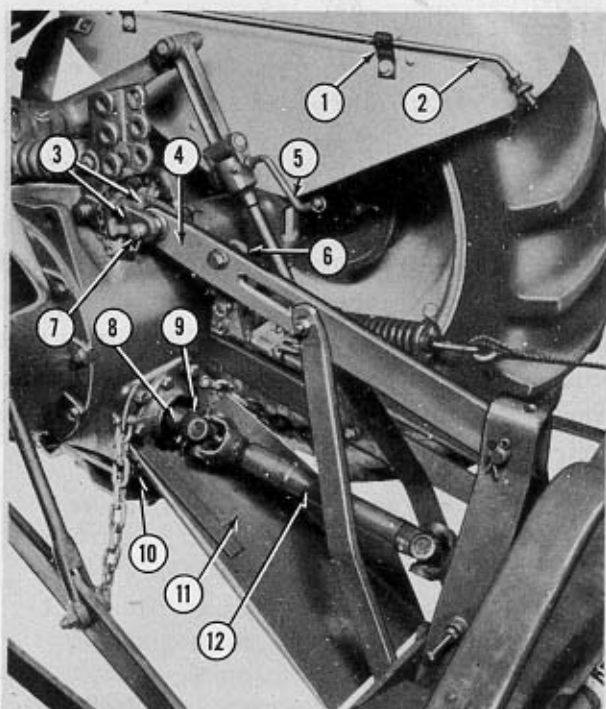

Figure 17
- a. From the tractor seat grasp the mower top link (4), Figure 17, with the right hand and hold it forward.
- b. Align the forward end of the top link horizontally with the leveling rod crank (5), Figure 17, so it will fit between the lugs on the bracket (3).
- c. Raise the mower SLOWLY with the Hydraulic Touch Control lever and guide the top link (4), Figure 17, into the bracket (3) with the right hand. Insert the
- d. Release the lock (6), Figure 17, from the top link anchor strap pin, lower the mower and shut off the tractor engine.
- a. Lower the right side of the mower main frame about one inch with the tractor leveling crank (5), Figure 17.
28. Loosen the bolt (10), Figure 17, on each side of the tractor center housing. Raise the drive shaft assembly (12), and position the guard (11) with the slotted straps over the two bolts as shown. Tighten the bolts (10), Figure 17, and lock washers against the guard straps.
29. Start the tractor engine, engage the P.T.O. lever, raise the mower and lock it in transport position with the lock (6), Figure 17.
31. Remove the tractor P.T.O. cap and attach the splined end of the mower drive shaft (8), Figure 17, to the tractor P.T.O. shaft and secure with the pin (9) and cotter pin. Be sure both splines are free from burrs and dirt.
32. Place the transport rod (2), Figure 17, in the clips (1) as shown.
13. Attach the splined end of the mower drive shaft (8), Figure 17, to the tractor P.T.O. shaft and secure with the pin (9) and cotter pin provided. Be sure both splines are free from burrs and dirt.
3. Detach the splined end of the drive shaft (8), Figure 17, from the tractor P.T.O. shaft. Replace the pin and cotter pin in the mower drive shaft and attach the P.T.O. cap to the tractor.